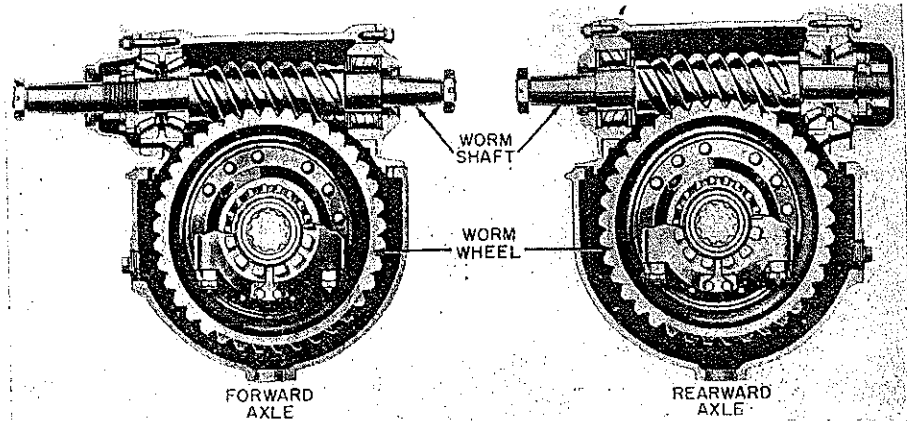

Fig. 180 Timken worm drive tandem axles
Fig. 180—These axles are heavy duty, four wheel tandem drive, worm gear, single reduction, full floating type. The front and rear axles of this tandem unit are of similar construction. This tandem axle unit is the "through drive" type in which engine torque is directly transmitted from the forward driving axle to the rear driving axle. These are connected with an intermediate propeller shaft.
13. Install differential carrier assembly in axle housing—facing proper direction, Fig. 180. Use new gasket and fasten securely, using tapered dowels, lock washers and nuts.